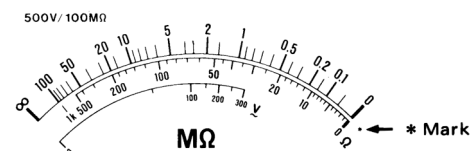

Figure. 3-2
- If the fuse is blown, the pointer points to the "*" mark during low resistance measurement. (See Figure 3-2)